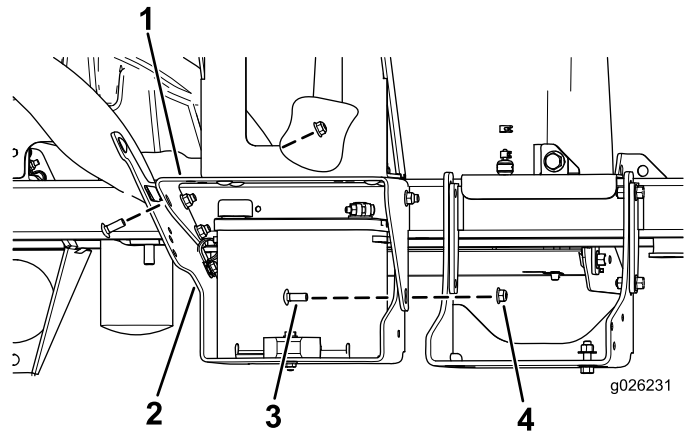

Figure 4
- Assemble the foam-marker bracket to the battery bracket with the 5 carriage bolts (3/8 x 1 inch) and 5 flange nuts (3/8 inch) as shown in Figure 4.